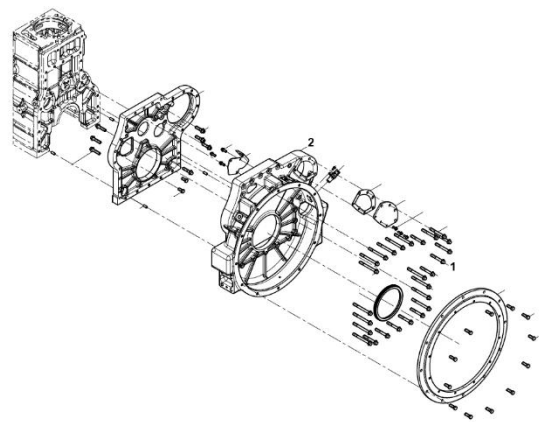

Figure 90.
- 3. Loosen and remove the flywheel housing bolts (Figure 90, Item 1).
- 4. Remove the flywheel housing (Figure 90, Item 2).
- 5. Remove the Rear oil seal (Figure 90, Item 3) from the rear oil seal seat.